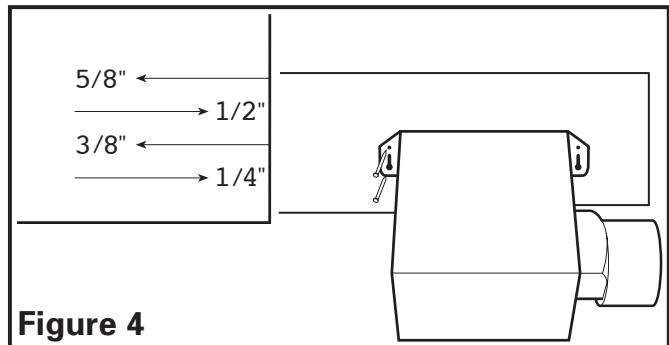
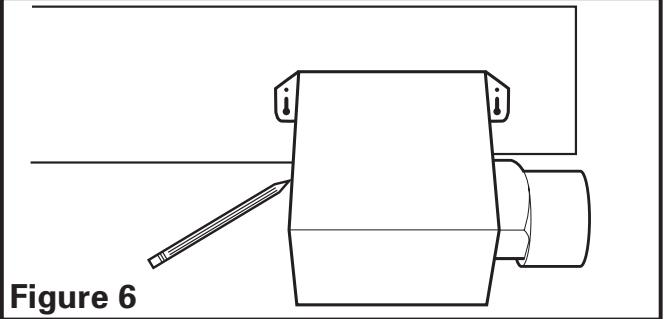

Figure 4
Figure 6
2. **Mounting Tab Installation:** Using the gauge on the fan's housing, line up housing so that it will be flush with the finished ceiling. Position the fan so that the tabs rest flat against the joist and secure with four nails or screws (not provided) to ensure proper installation (**Figure 4**).
- 1b. **Mounting Tab Installation:** Position housing against the joist and trace an outline of the housing onto the ceiling material (**Figure 6**). Set housing aside and cut opening, being careful not to cut or damage any electrical or other hidden utilities. Place housing next to the joist and insure that it is flush with the finished ceiling. Secure with four nails or screws (not provided) to ensure proper installation (**Figure 4**).